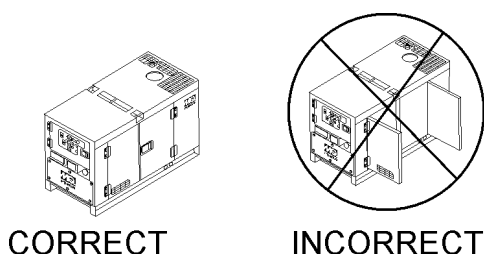

Figure 39. Engine Enclosure Doors
5. Close all engine enclosure doors (Figure 39).